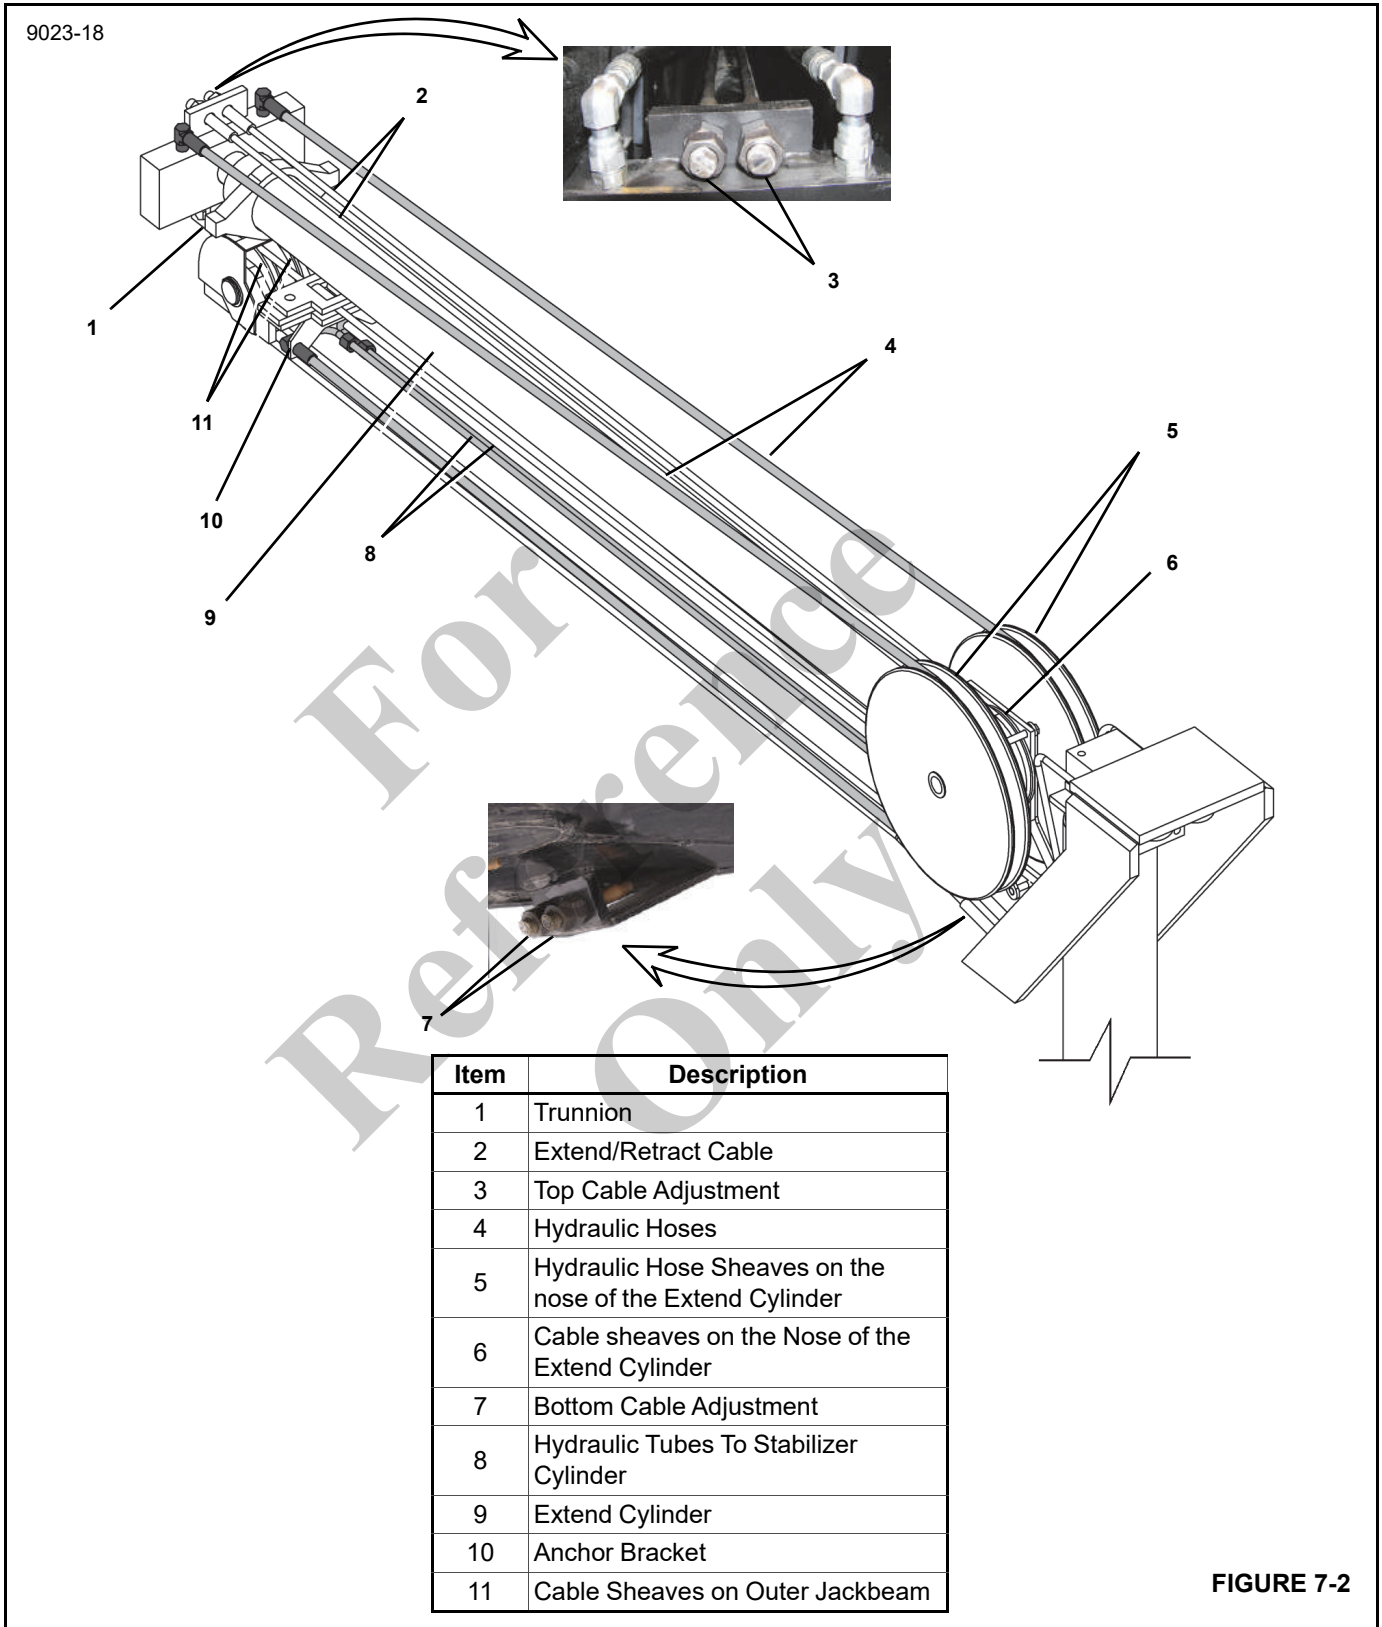

FIGURE 7-2
12. Lift the extend cylinder trunnion out of anchor pockets in the mid-section beam (Figure 7-2).
14. Disconnect the internal hydraulic hoses from the anchor brackets at the rear of the outer jackbeam (Figure 7-2).